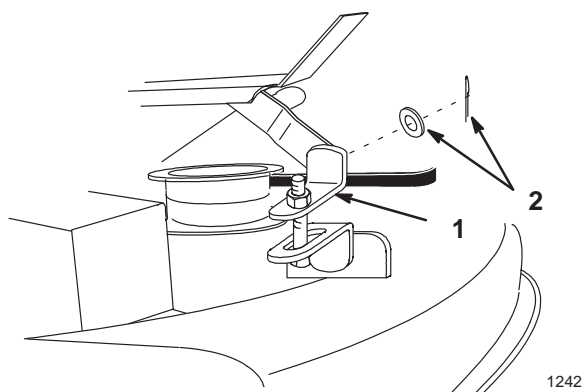

Figure 13
4. Remove hairpin cotter and washer from front adjustable link and remove from front lift arm (Fig. 13).